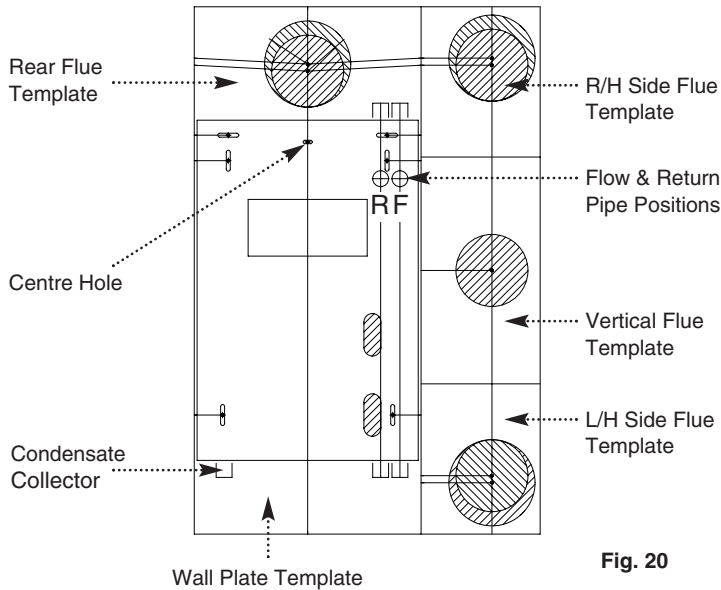

Fig. 20
1. Remove the fixing template (Fig. 20) from the carton.
3. Mark the position of the centre hole for the wall plate (Fig. 20).